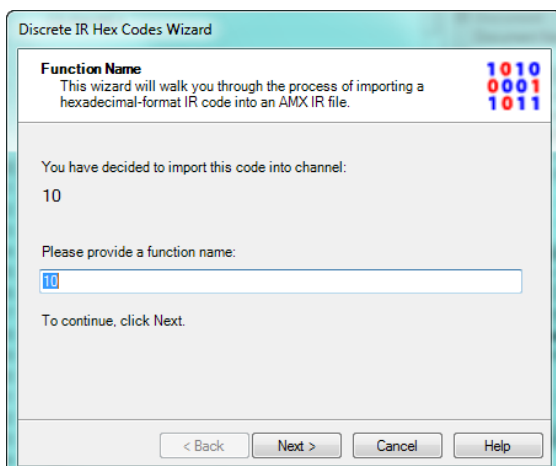

FIG. 31 Discrete IR Hex Codes Wizard dialog
1. Select **Tools > Discrete IR Hex Codes** to open the *Discrete IR Hex Codes Wizard* dialog (FIG. 31):